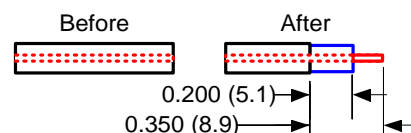

Figure 1. Trim Dimensions for the Internal Coaxial Cable [inches (mm)].
Step 3. Trim the outer conductor from the resulting coaxial cable end 0.350 inches (8.9 mm) as shown in Figure 1. Do not damage the dielectric of the cable while trimming.
Step 4. Trim the dielectric 0.20 (5.1 mm) inches from the jacket end as shown in Figure 1. Do not damage the center conductor while trimming.
Step 8. Slide the sleeve over the connector to cover the access holes. Now heat the sleeve with an 800 Degree (F), 100W soldering iron. Apply solder to the joint to seal both the top and bottom of the sleeve to the connector body.